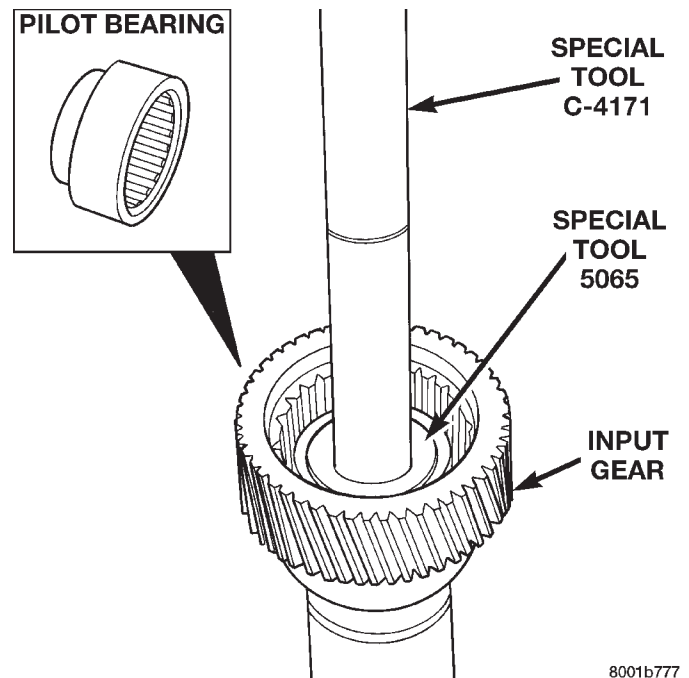

Fig. 52 Install Input Gear Pilot Bearing
(14) Install new pilot bearing with Installer 5065 and Handle C-4171 (Fig. 52).